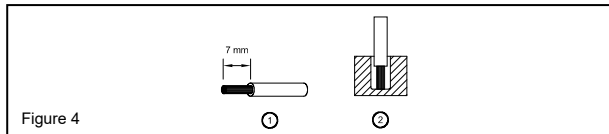

Figure 4
(1)	3.3-5.3	12-10	7.3	6.3
(2)	0.21-5.3	24-10	7.3	6.3
To secure reliable and shock proof connections, the stripping length should be 7 mm (see Fig. 4 (1)). Please ensure that wires are fully inserted into the connecting terminals as shown in Fig. 4 (2).